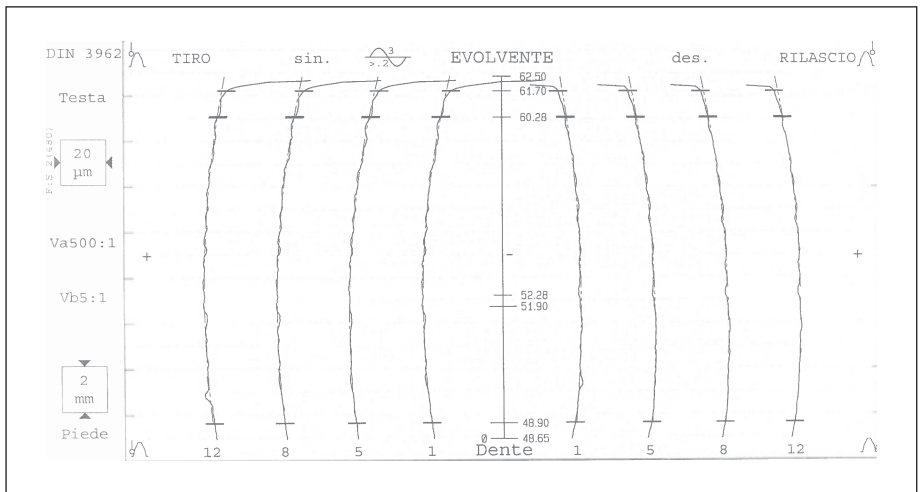

Figure 6—Profile and lead diagram, measured by GMM (values on axes are intentionally blank or without references).
- microgeometry measured by GMM (Figure 6).